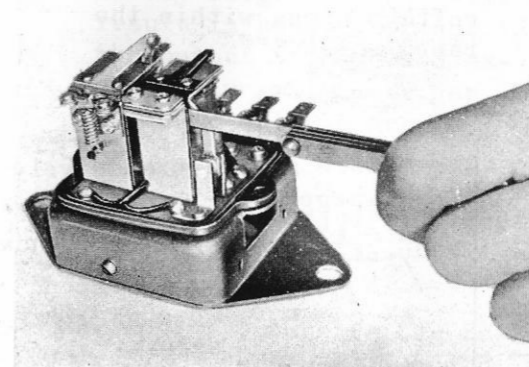

Fig. 10-14
- 2) Check the point gaps and if necessary adjust them according to "maintenance Standard" (See Figs. 10-14 through 10-16). The adjustment should be made in the